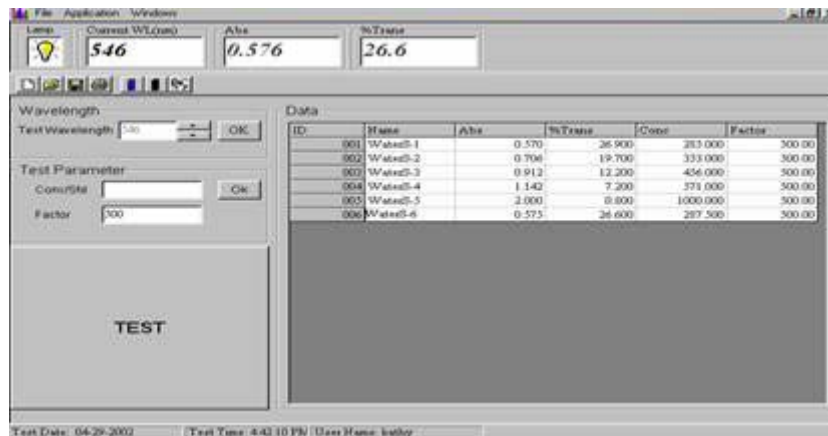

Figure-28 Sample Test Results of **Concentration/Factor Mode**
Step 5B: For each sample, be sure to place the sample in Sample Compartment and close the lid. Click the **TEST** Button to record results. The **Absorbance**, **Transmittance** and **Concentration** of the samples will be displayed in the **Data Table** (Figure-28).